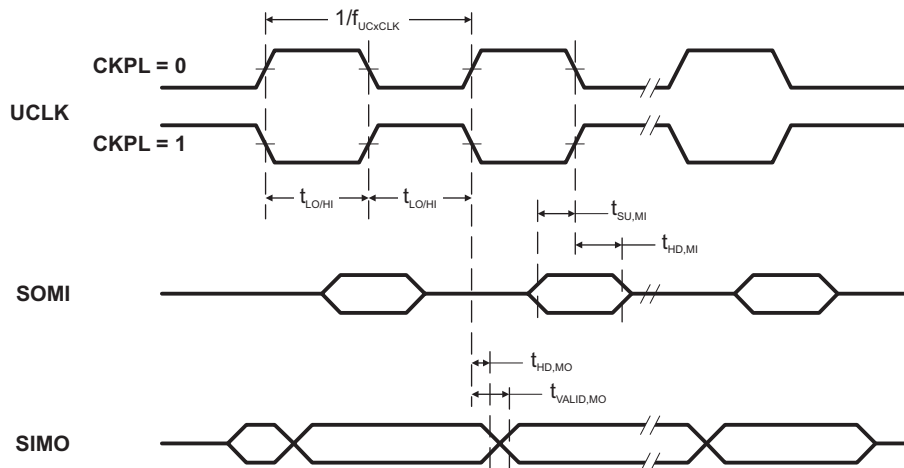

Figure 11. SPI Master Mode, CKPH = 0
(see Figure 11 and)
- (1) $f_{UCxCLK} = 1/2t_{LO/HI}$ with $t_{LO/HI} \geq \max(t_{VALID,MO}(USCI) + t_{SU,SI}(Slave), t_{SU,MI}(USCI) + t_{VALID,SO}(Slave))$. For the slave's parameters $t_{SU,SI}(Slave)$ and $t_{VALID,SO}(Slave)$, see the SPI parameters of the attached slave.
- (2) Specifies the time to drive the next valid data to the SIMO output after the output changing UCLK clock edge. See the timing diagrams in Figure 11 and .
- (3) Specifies how long data on the SIMO output is valid after the output changing UCLK clock edge. Negative values indicate that the data on the SIMO output can become invalid before the output changing clock edge observed on UCLK. See the timing diagrams in Figure 11 and .